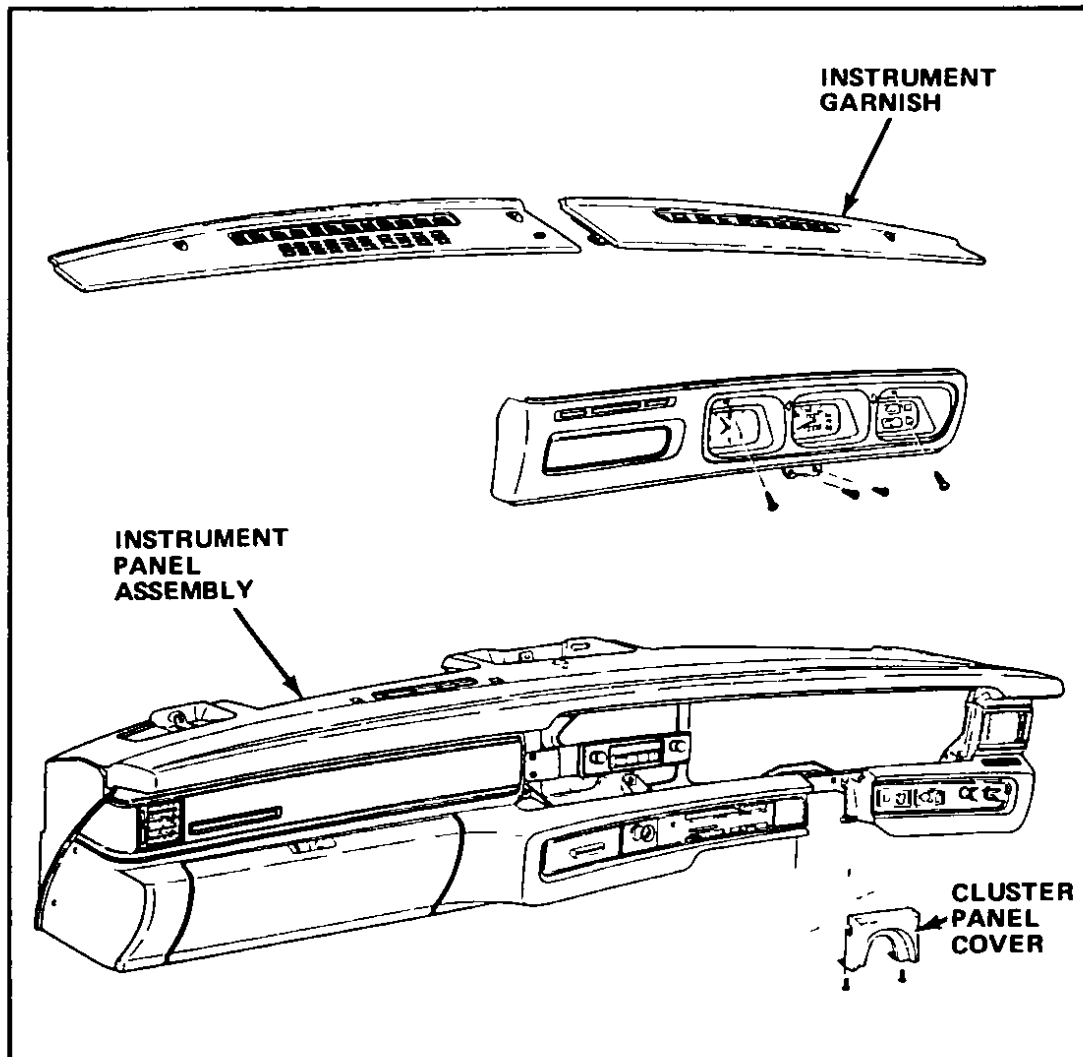

Fig 72 Instrument panel assembly – Model 610
- 2 Remove the horn bar, steering wheel and shell assembly, Fig 72